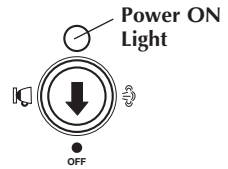

Figure 5
9. Turn the Function Control Knob to ☕ ESPRESSO. The Power ON Light will illuminate (see Figure 5). The espresso will begin to flow from the Filter Holder Spout in 1 to 3 minutes, depending on the amount of water added to the Water Tank. Wait until all the water from the Water Tank has flowed into the Carafe.